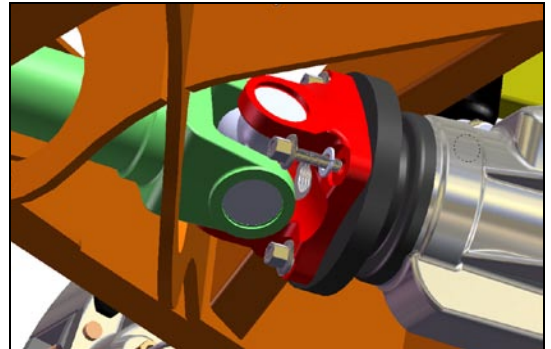

Figure 32
- b. Secure the drive shaft to the rear differential using the hardware shipped on the input flange of the differential. Figure 32